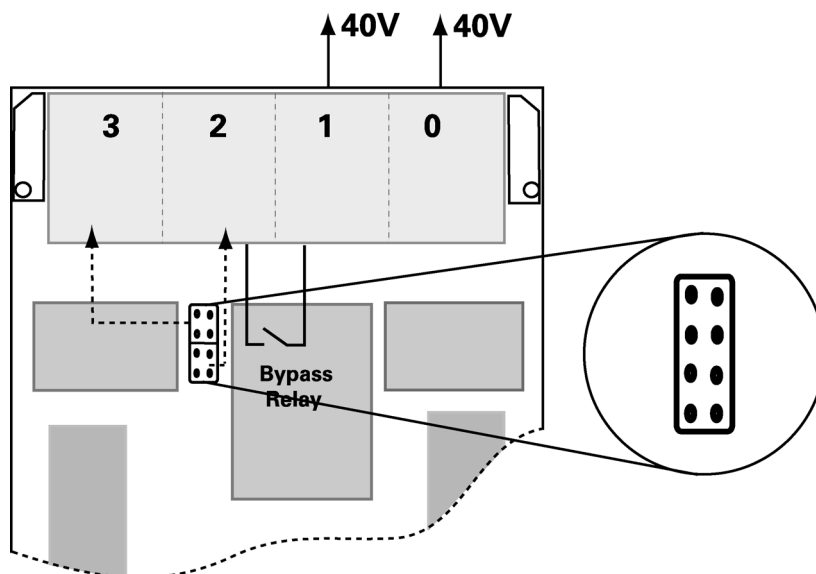

Figure 5-6: No Jumpers Set
- No jumpers are set: this setting is used with Ports 2 & 3 configured in ‘USR’ mode & connected to NTs as shown in Figure 5-6.